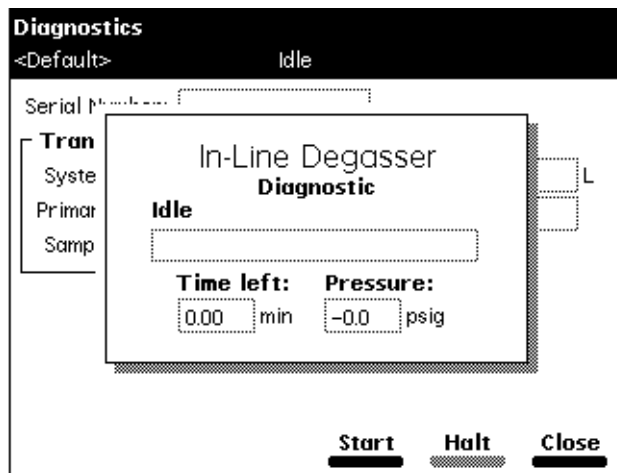

Figure 8-18 Degasser Diagnostic Screen
1. Select **Degasser** in the Other Diagnostics screen, then press **OK**. The inline Degasser Test screen appears (Figure 8-18).